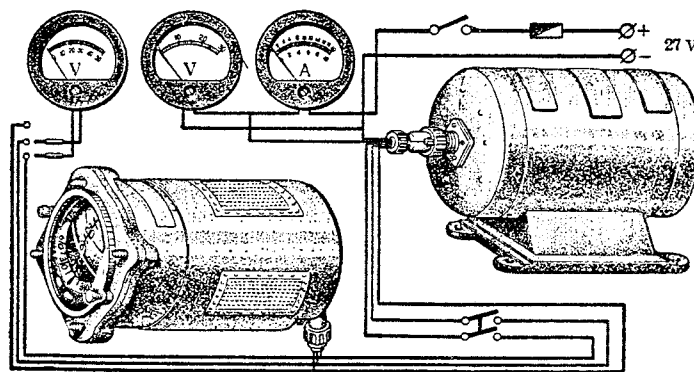

Fig. 3-6 Connection Diagram For Checking Convertor Performance
(2) Washing, cleaning and checking.
(3) Assembly. Precautions must be taken in assembly:
(4) Check the convertor for performance.
A. Connect the tester as shown in Fig. 3-6. Turn off the load switch and set the voltage of power supply to 27v.